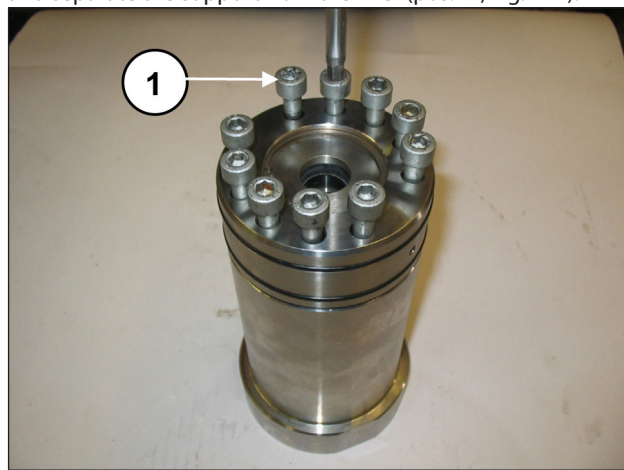
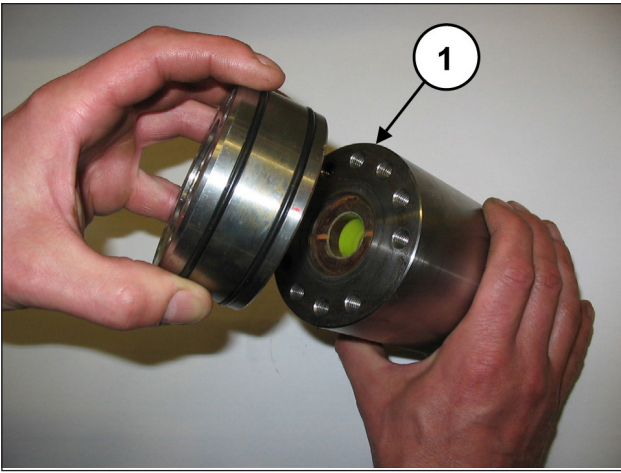

Fig. 110
Fig. 111
Remove the M8x50 head liner fixing screws (pos. ①, Fig. 110) and separate the support from the liner (pos. ①, Fig. 111).